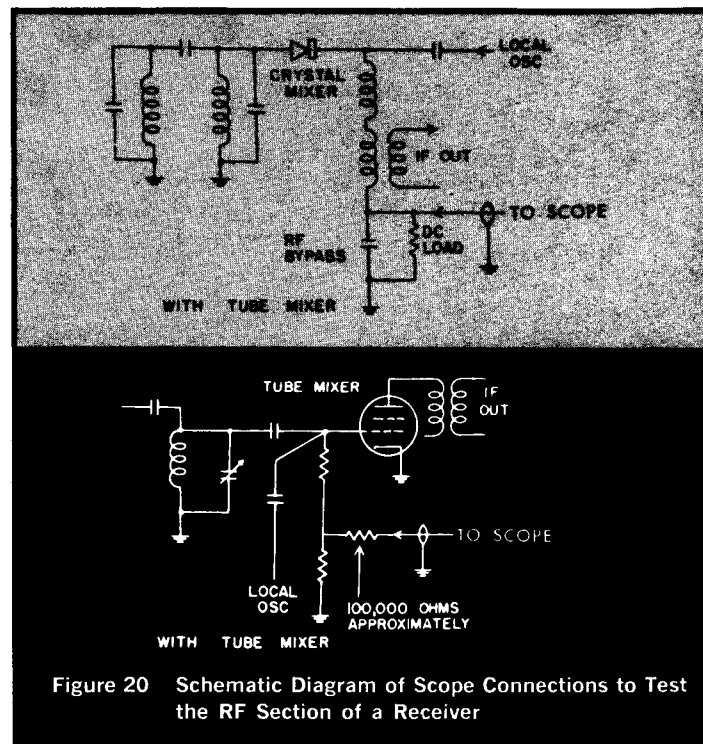

Figure 20 Schematic Diagram of Scope Connections to Test the RF Section of a Receiver
- Connect scope vertical input to the DC load of the mixer (see Figure 20). This connection is often provided as a test point by the manufacturer.